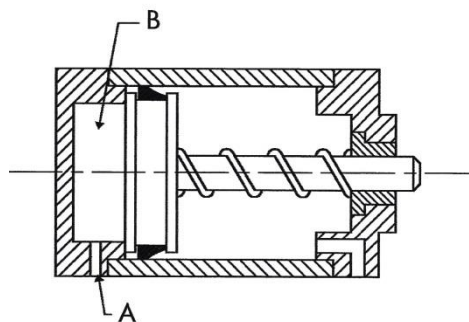

Figure 3.9 Principle operation of an actuator
- When air is supplied to the cylinder through a control valve it enters the cylinder through the inlet port (A).
- The pressure in the cylinder starts to build up in the chamber (B) at the back of the piston.
- The return spring now pushes the piston back until it returns to its initial position (see **Figure 3.9**).